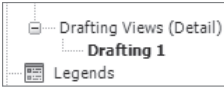

Figure 11.23
4. Click OK. A new node, Drafting Views (Detail), is added to the Project Browser (see Figure 11.23). This new drafting view is primed for either drafting a new detail or importing existing CAD details.